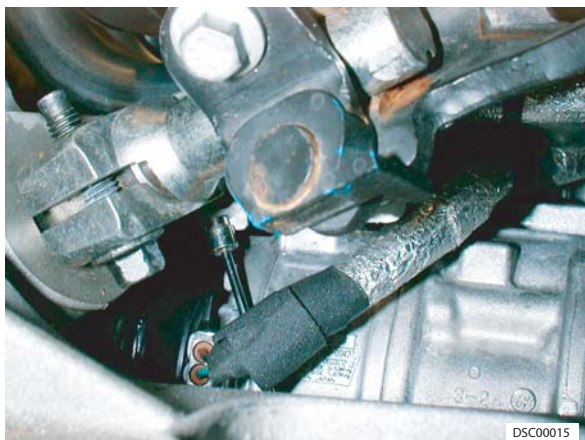

Figure 10
41. Remove bolt (x1) HP pipe to bracket (refer to Figure 10). **Steering Removal**